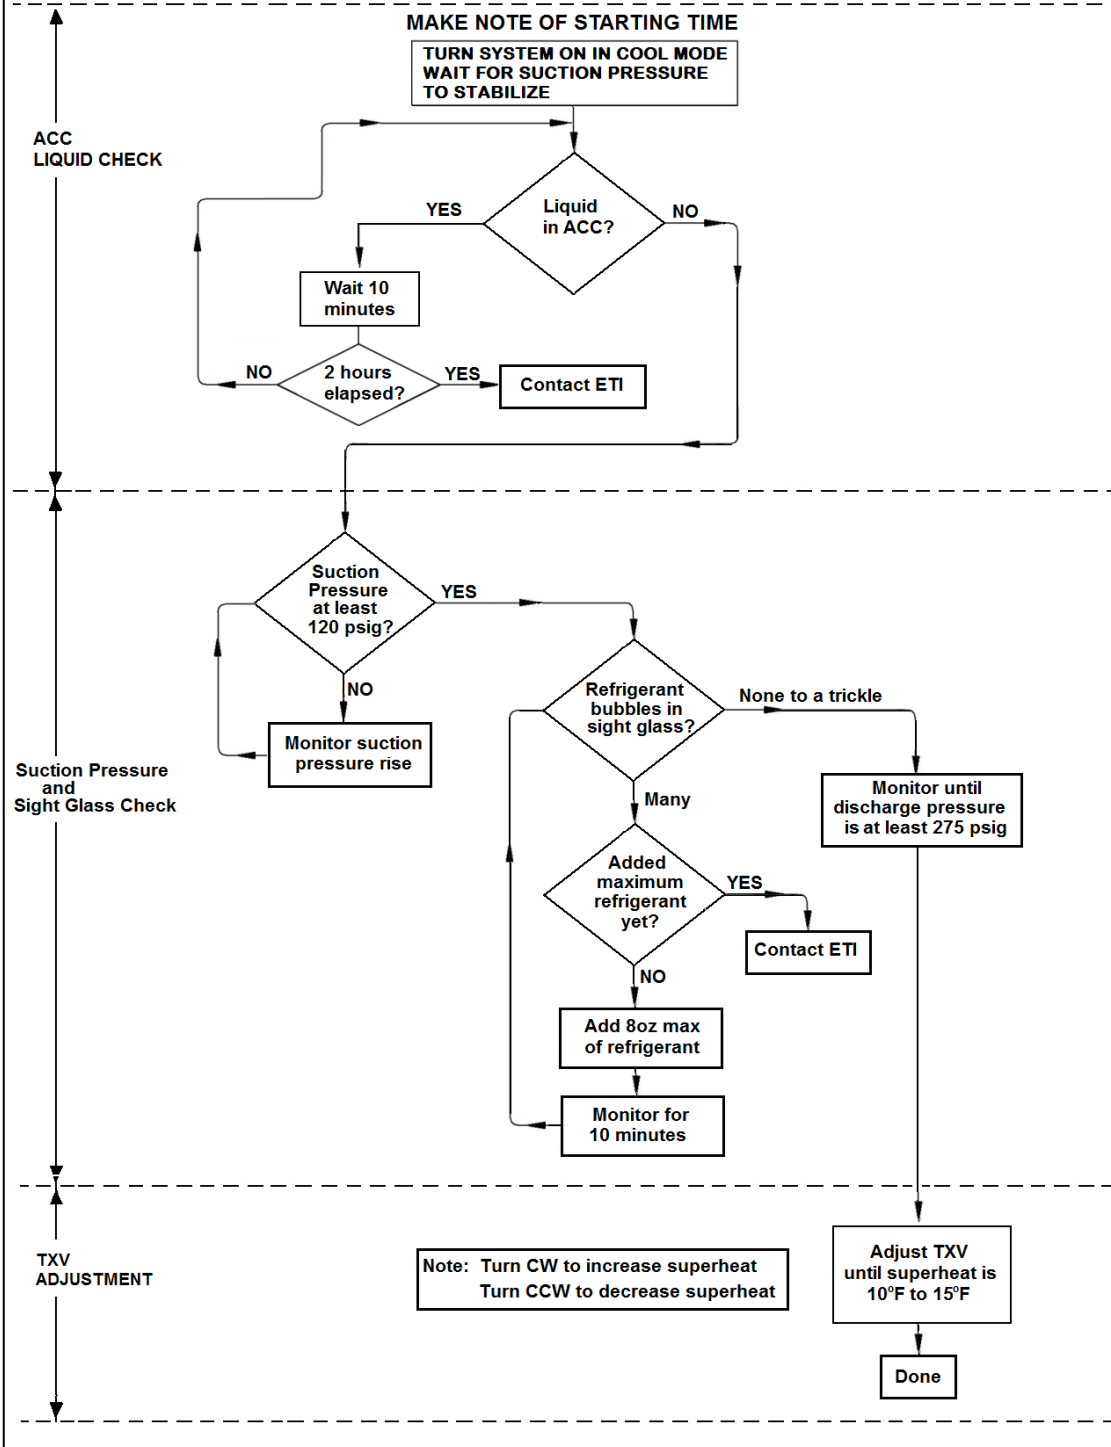

Figure 38. Cooling Mode Start-Up
These following steps describe the procedure for system **start-up in the cooling mode**. This is illustrated in the process flow chart, Figure 38. **Be sure the cooling mode for the system is enabled.**
4. **If there is LIQUID REFRIGERANT** in the bottom ACC sight glass, continue to run the system to remove the liquid refrigerant from the ACC, in accordance with the procedure described in the process flow chart, Figure 38.